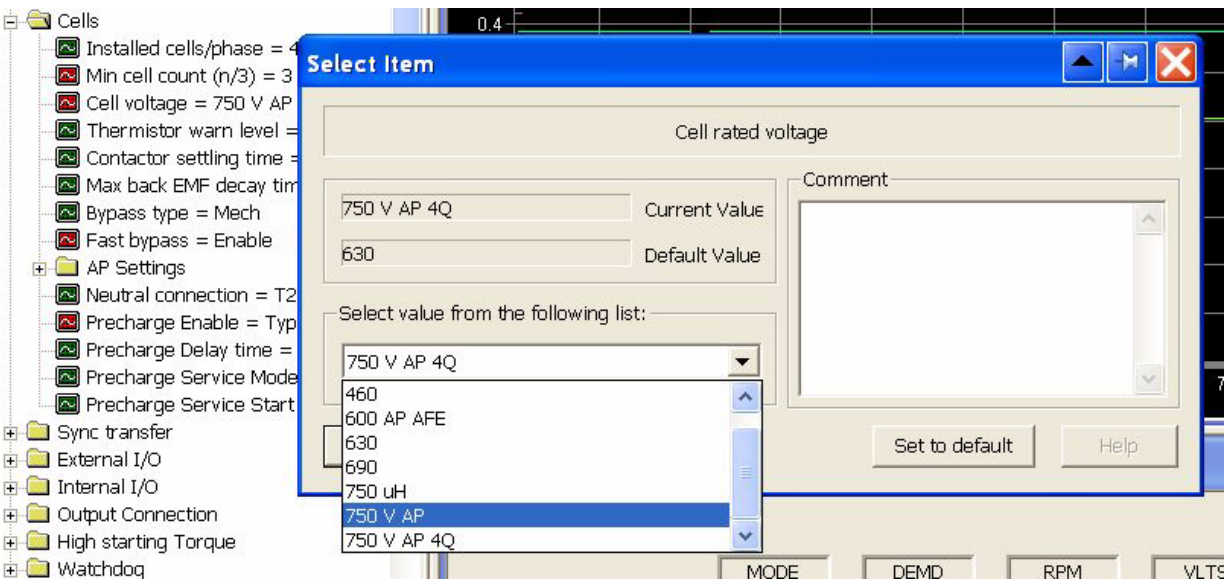

Figure 5-39: Selecting a WCIII Cell
- Cell Voltage (ID 2550) must be valid for the Precharge cell type selected (750V AP – 2Q or 4Q). These are the two settings that are defined for the WCIII drive. (see Figure 5-39)